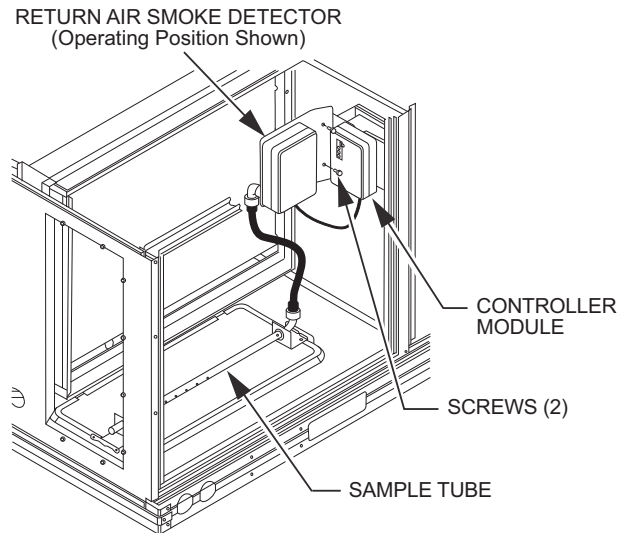

Fig. 43 — Return Air Smoke Detector Operating Position
3. Rotate the detector plate so the sensor is facing outwards and the sampling tube connection is on the bottom. See Fig. 43.